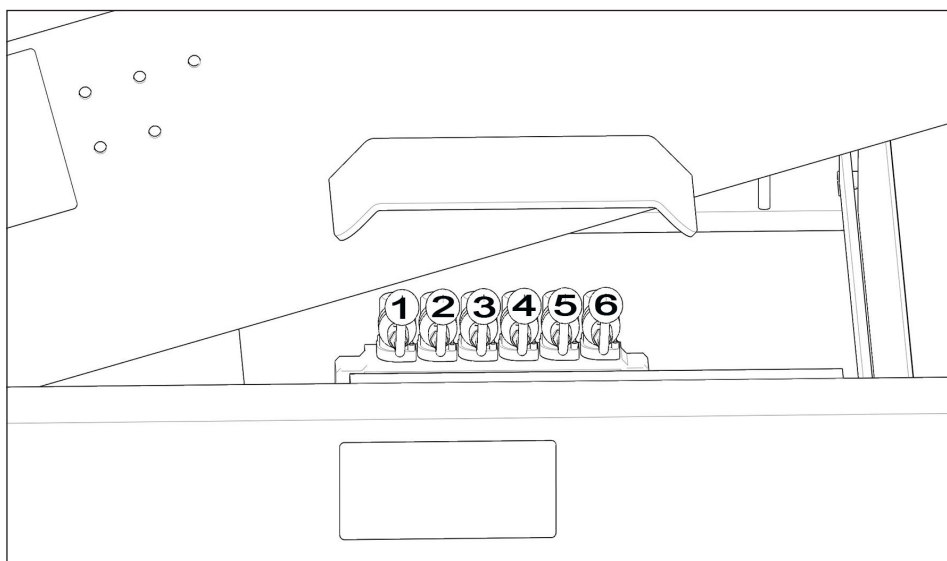

Figure 5.12 - Control Levers
4. If the machine is fitted with the option of feeder extension plates these should now be placed in their transport position, the control lever can be found on the left hand side of the machine under the screenbox, Ref: Figure 5.12 lever (6)